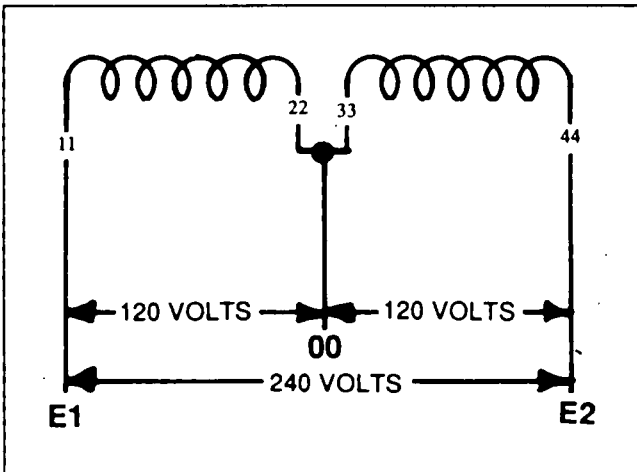

Figure 2. Dual Winding, 1-Phase Stator System
See Figure 2, below. Units with Voltage Codes "A" and "M" have stators with dual windings. Two leads are brought out of each winding and routed into the AC connection panel, for a total of four (4) leads. The leads are numbered 11, 22, 33 and 44. Leads No. 11 and 44 are the two "hot" leads (E1 and E3). The junction of leads 22 and 33 form the "Neutral" connection (00).